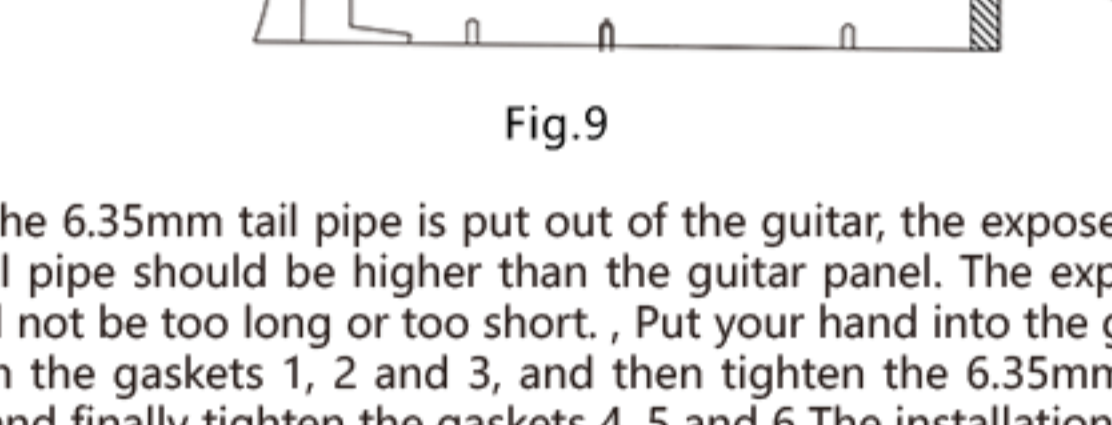

Fig.8
4. Remove all the nuts and washers on the head of the 6.35mm tubular socket of the pickup, exposing the small round holes, as shown in Figure 8.